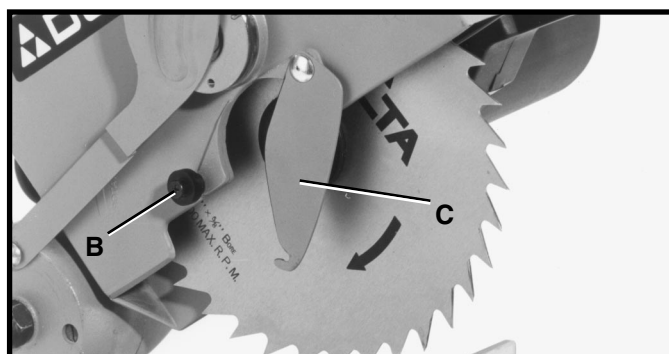

Fig. 41
3. Loosen screw (B) Fig. 41, to free plate (C).
9. Rotate plate (C) Fig. 41, until hook in plate is engaged under rubber washer and tighten screw (B).